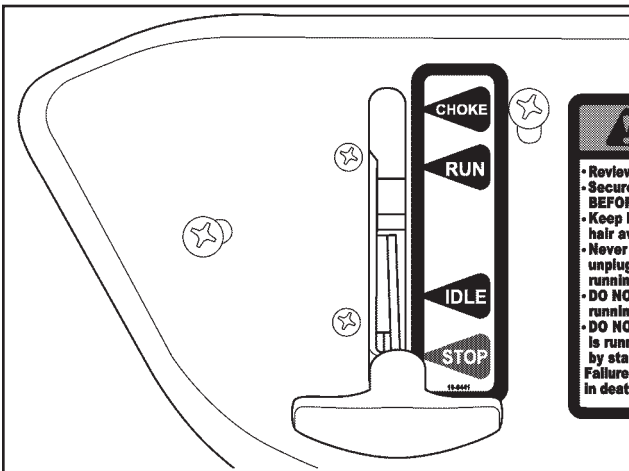

FIGURE 12 Stop Position
2. Place the throttle in the STOP position and the engine should stop running (See Figure 12).
1. Stop the engine by placing the throttle control to the STOP position (See Figure 12).